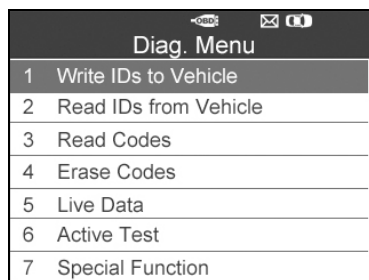

Figure 4.22
- 1) From the TPMS Diagnosis Menu, use the **UP/DOWN** scroll button to select the **Write IDs to Vehicle**, and press the **Y** button. (Figure 4.22)
- 1) From the TPMS Diagnosis Menu, use the **UP/DOWN** scroll button to select the **Read IDs from Vehicle**, and press the **Y** button. (Figure 4.22)
- 1) From the TPMS Diagnosis Menu, use the **UP/DOWN** scroll button to select the **Read Codes**, and press the **Y** button. (Figure 4.22)
- 1) From the TPMS Diagnosis Menu, use the **UP/DOWN** scroll button to select the **Erase Codes**, and press the **Y** button. (Figure 4.22)
- 1) From the TPMS Diagnosis Menu, use the **UP/DOWN** scroll button to select **Live Data**, and press the **Y** button. (Figure 4.22)